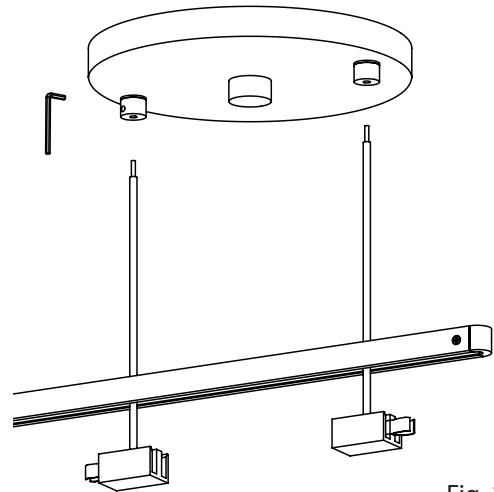

Fig. 1
1. Install the Single Cord Power Feed Hanger onto the Power Bar the same was as the Perpendicular Power Bar Hanger (page 28): pass the cord through the Power Bar, tip the Hanger 45 degrees and insert the copper springs into the center of the Power Bar, then push the Hanger up while tipping it back up 45 degrees. (Fig. 1)